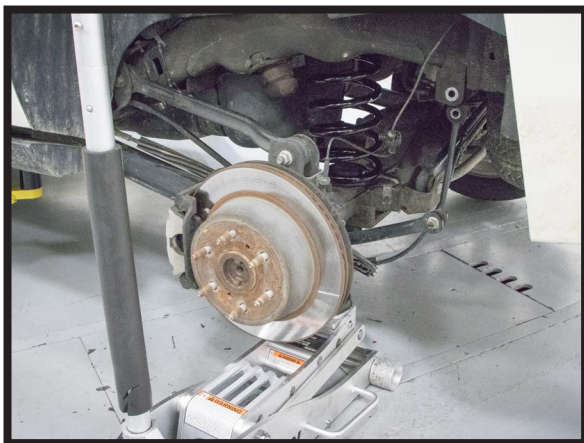

FIGURE 63
2. USING A JACK OR OTHER SUITABLE DEVICE, RAISE THE AXLE UNTIL THE SWAY BAR END LINK IS REALIGNED WITH THE BOLT HOLES. REINSTALL THE SWAY BAR END LINK BOLTS. (FIGURES 63, 64)